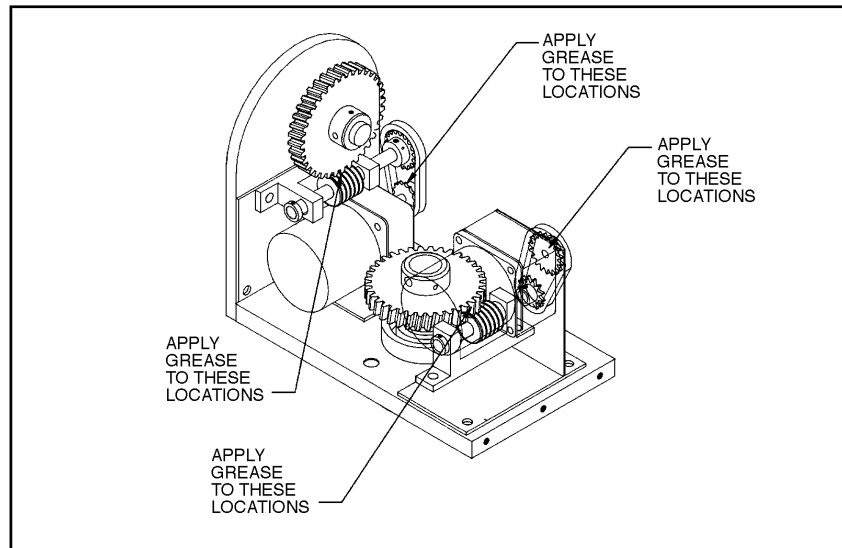

Figure 6. Servicing the Pan/Tilt
1. Liberally apply grease to the pan and tilt gears, chains, and sprockets (refer to Figure 6).